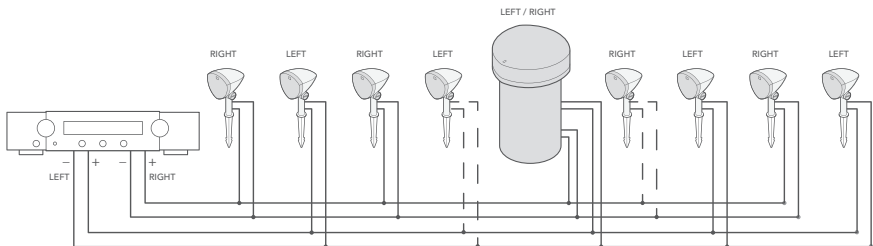

Figure 6
5. Run the speaker wire through the trench as described in the wiring instructions in section 6 "Installing the Satellite Speakers" on the next page. We recommend leaving 14-16" of excess wire per speaker so that the wire doesn't kink or pull taut when covering the wire with dirt in the trench. Figure 6 shows the wiring of a complete system using a stereo amplifier.